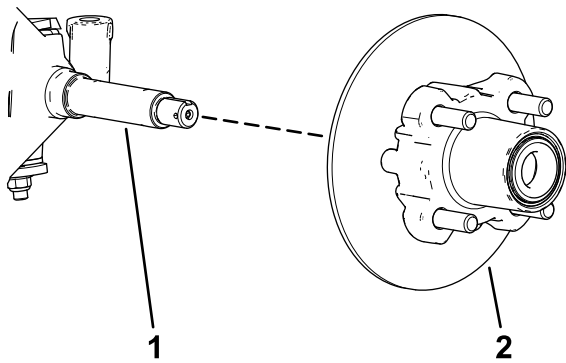

**Figure 34**
4. Remove the dust cap from the hub (Figure 34).
5. Remove the cotten pin and nut retainer from the spindle and spindle nut (Figure 34).
6. Remove the spindle nut from the spindle, and separate the hub and rotor assembly from the spindle (Figure 34 and Figure 35).